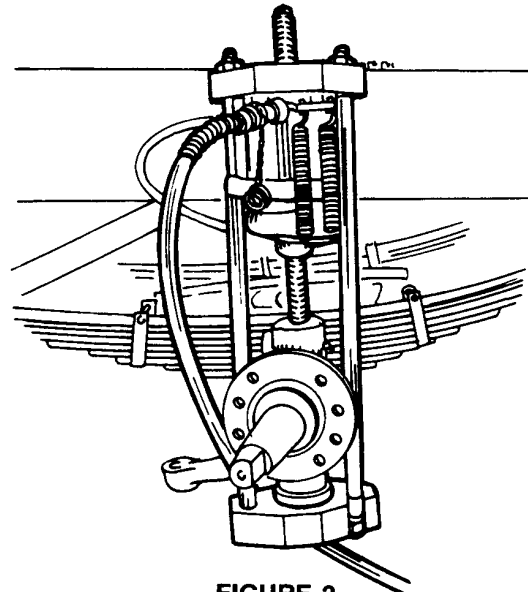

FIGURE 2
7. Position the unit on the spindle in either the top-mounted or bottom-mounted position. Refer to Figure 2, which is the top-mounted position.